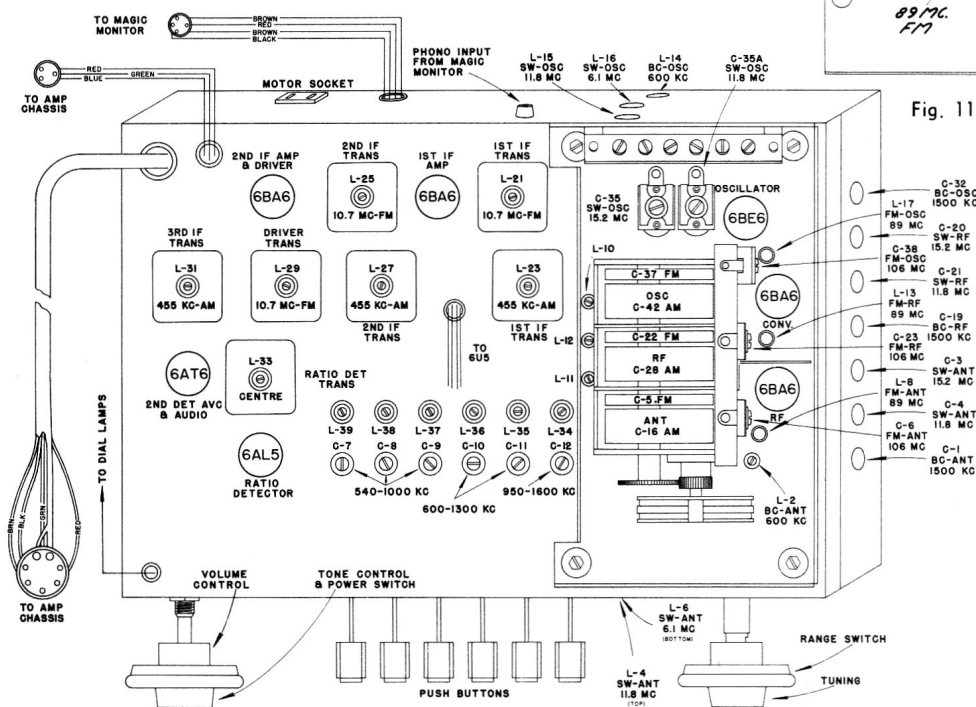

Fig. 12 — Chassis Layout and Alignment Adjustments
3. Referring to Fig. 12, adjust core and trimmer No. 1 for a peak at 560 kc. This adjustment can be made with the assistance of the "Magic Eye". To align the push buttons with set still in cabinet, unfasten "Magic Eye" from its bracket and face to the rear.